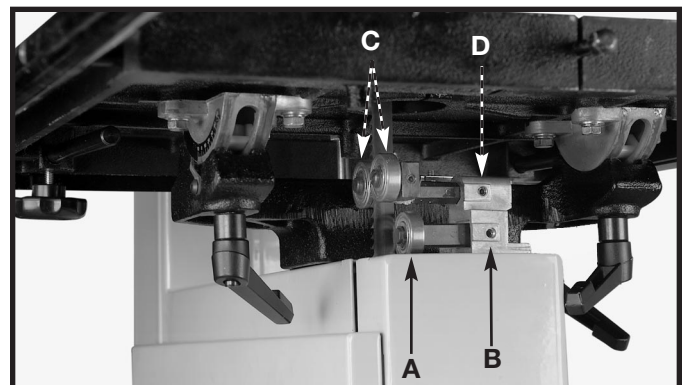

Fig. 23
The lower bearing adjustments are similar to the upper bearing adjustments. Adjust the blade support bearing (A) Fig. 23 so that it almost touches the back of the saw blade. To adjust, loosen hex screw (B) and slide the bracket in or out until the adjustment is correct. Tighten the screw. Adjust the blade guide bearings (C) so that they almost touch the sides of the blade. To adjust, loosen the hex screw (D) and slide the bearing assembly in or out until the adjustment is correct. Tighten the hex screw.